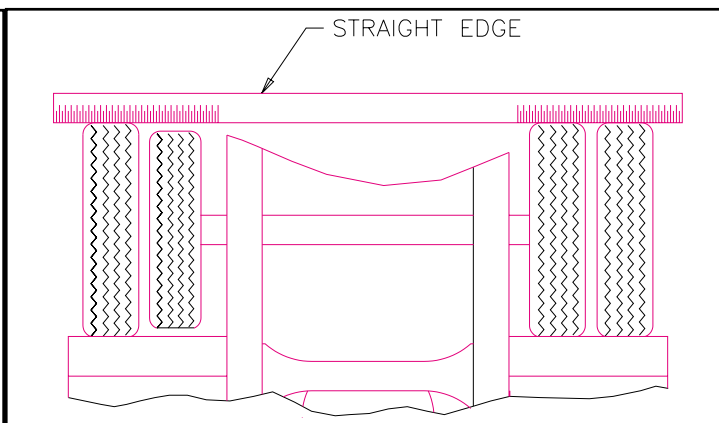

Fig. 4-18 Straight Edge Method
b. Straight Edge or String Method: (This method can not be used if tire and wheel assemblies are not mounted on the axle.) Jack semitrailer up until the wheels are off of the ground. Hold a straight edge against the tires of both ends of an axle. A gap at one tire indicates a smaller tire. A maximum of $\frac{1}{8}$ " gap is allowed (**See Figure 4-18**).